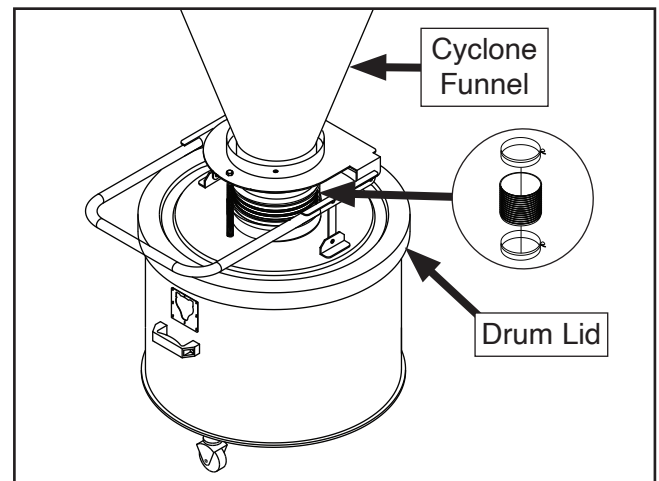

Figure 35. Cyclone funnel connected to drum lid with flexible hose (stand removed for clarity).
37. Connect bottom of cyclone funnel to collection drum lid with clear flexible hose and (2) 9" hose clamps (see **Figure 35**).